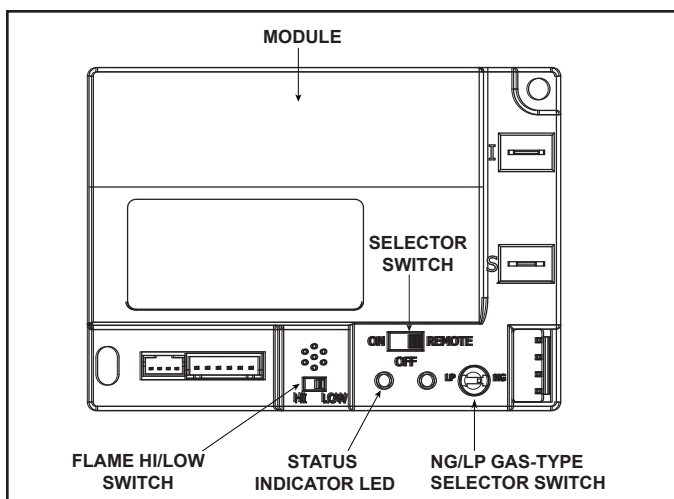

Figure 3.5 Control Module
2. Locate the battery tray and insert four AA cell batteries. Battery polarity must be correct or module damage will occur. See Figure 3.5. A complete wiring diagram is included in the Electrical section of the appliance Installation Manual.
- Slide the ON/REMOTE/OFF selector switch to the ON position. See Figure 3.5.
1. The control module has an ON/OFF/REMOTE selector switch that must be set. See Figure 3.5.
2. If using a wired wall switch with the module in REMOTE mode, the flame output can be adjusted with the HI/LO selector switch on the module. See Figure 3.5. Note that the flame HI/LO selector switch will become inactive once an optional remote control (RC200/RC300) is programmed to the control module. Note that the control module will always ignite the fireplace on HI and remain so for the initial 10 seconds of operation. If the HI/LO is switched to the LO position, the flame output will automatically drop to the lowest setting after the flame has been established for 10 sec. After this 10 second period, the flame can be adjusted from HI to LO with the switch.
- Locate the module selector switch. (See Figure 3.5).
- Wait five (5) minutes to allow possible accumulated gas to clear.